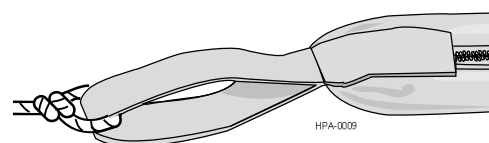

Figure 5 — Pull Line
Step 3: Attach a pull line to the pulling loop at the end of the sleeve (Figure 5).